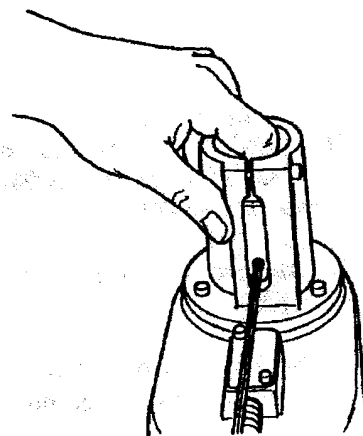
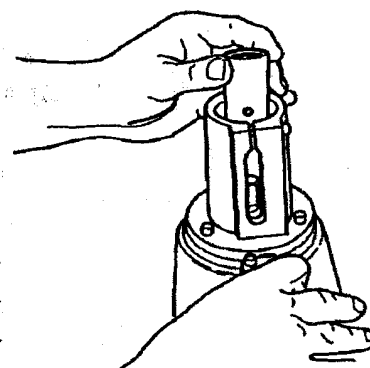

Fig.24
Fig.25
5. Place the Speed Reducer on a workbench. Remove the special coupler from the quill clamp of the Speed Reducer by exposing it's setscrew through the slot in the underside of the quill clamp, as in Fig.24. Then loosen the setscrew and slide the special coupler off the input shaft. See Fig.25.